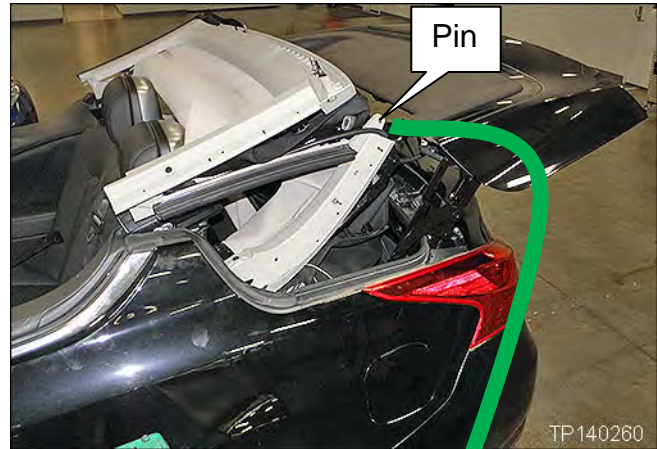

Figure 3
3. Remove the pin shown in Figure 3, and then reinstall it in the opposite direction as follows: